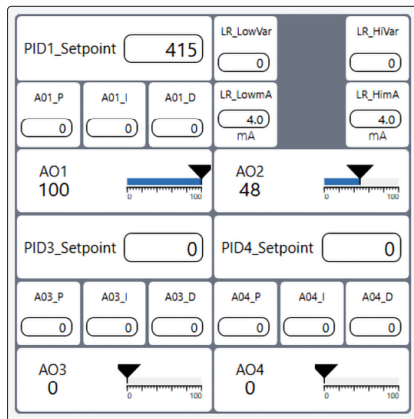
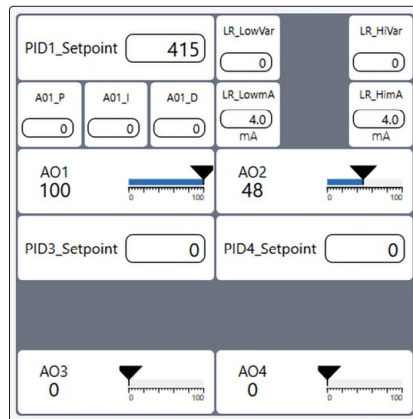

Figure 41
Figure 42
- b. Remove the PID/linear analog tuning adjustments (Figure 41 shows the default block and Figure 42 shows the block with the tuning adjustments removed), or remove the entire control (PID) setpoint and tuning block.